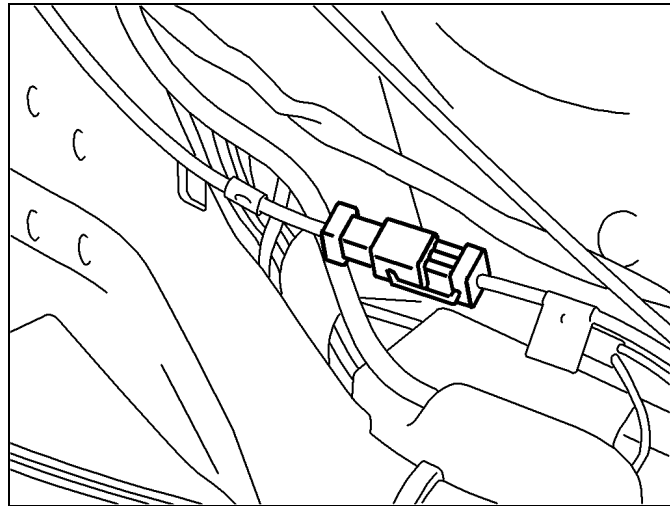

Figure 2
- a) In-line coupler (Figure 2) Disassemble by gently prying up, from the side of the clip closest to the connector, one or both of the metal spring clips on either side of the connector.